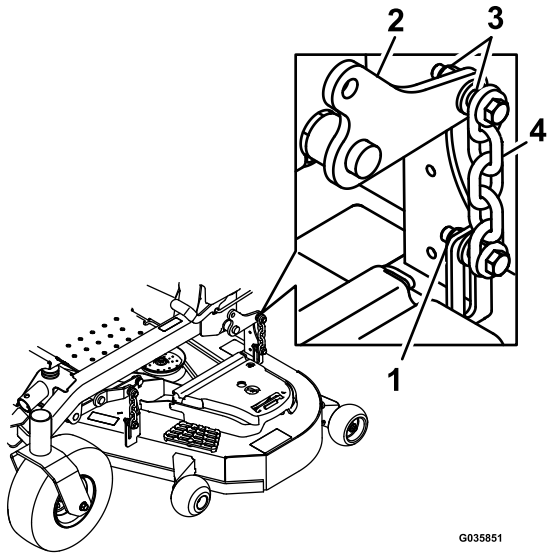

Figure 123
- 14. Loosen the locknuts (Figure 123) on all 4 corners and ensure that the mower deck is sitting securely on all 4 blocks.